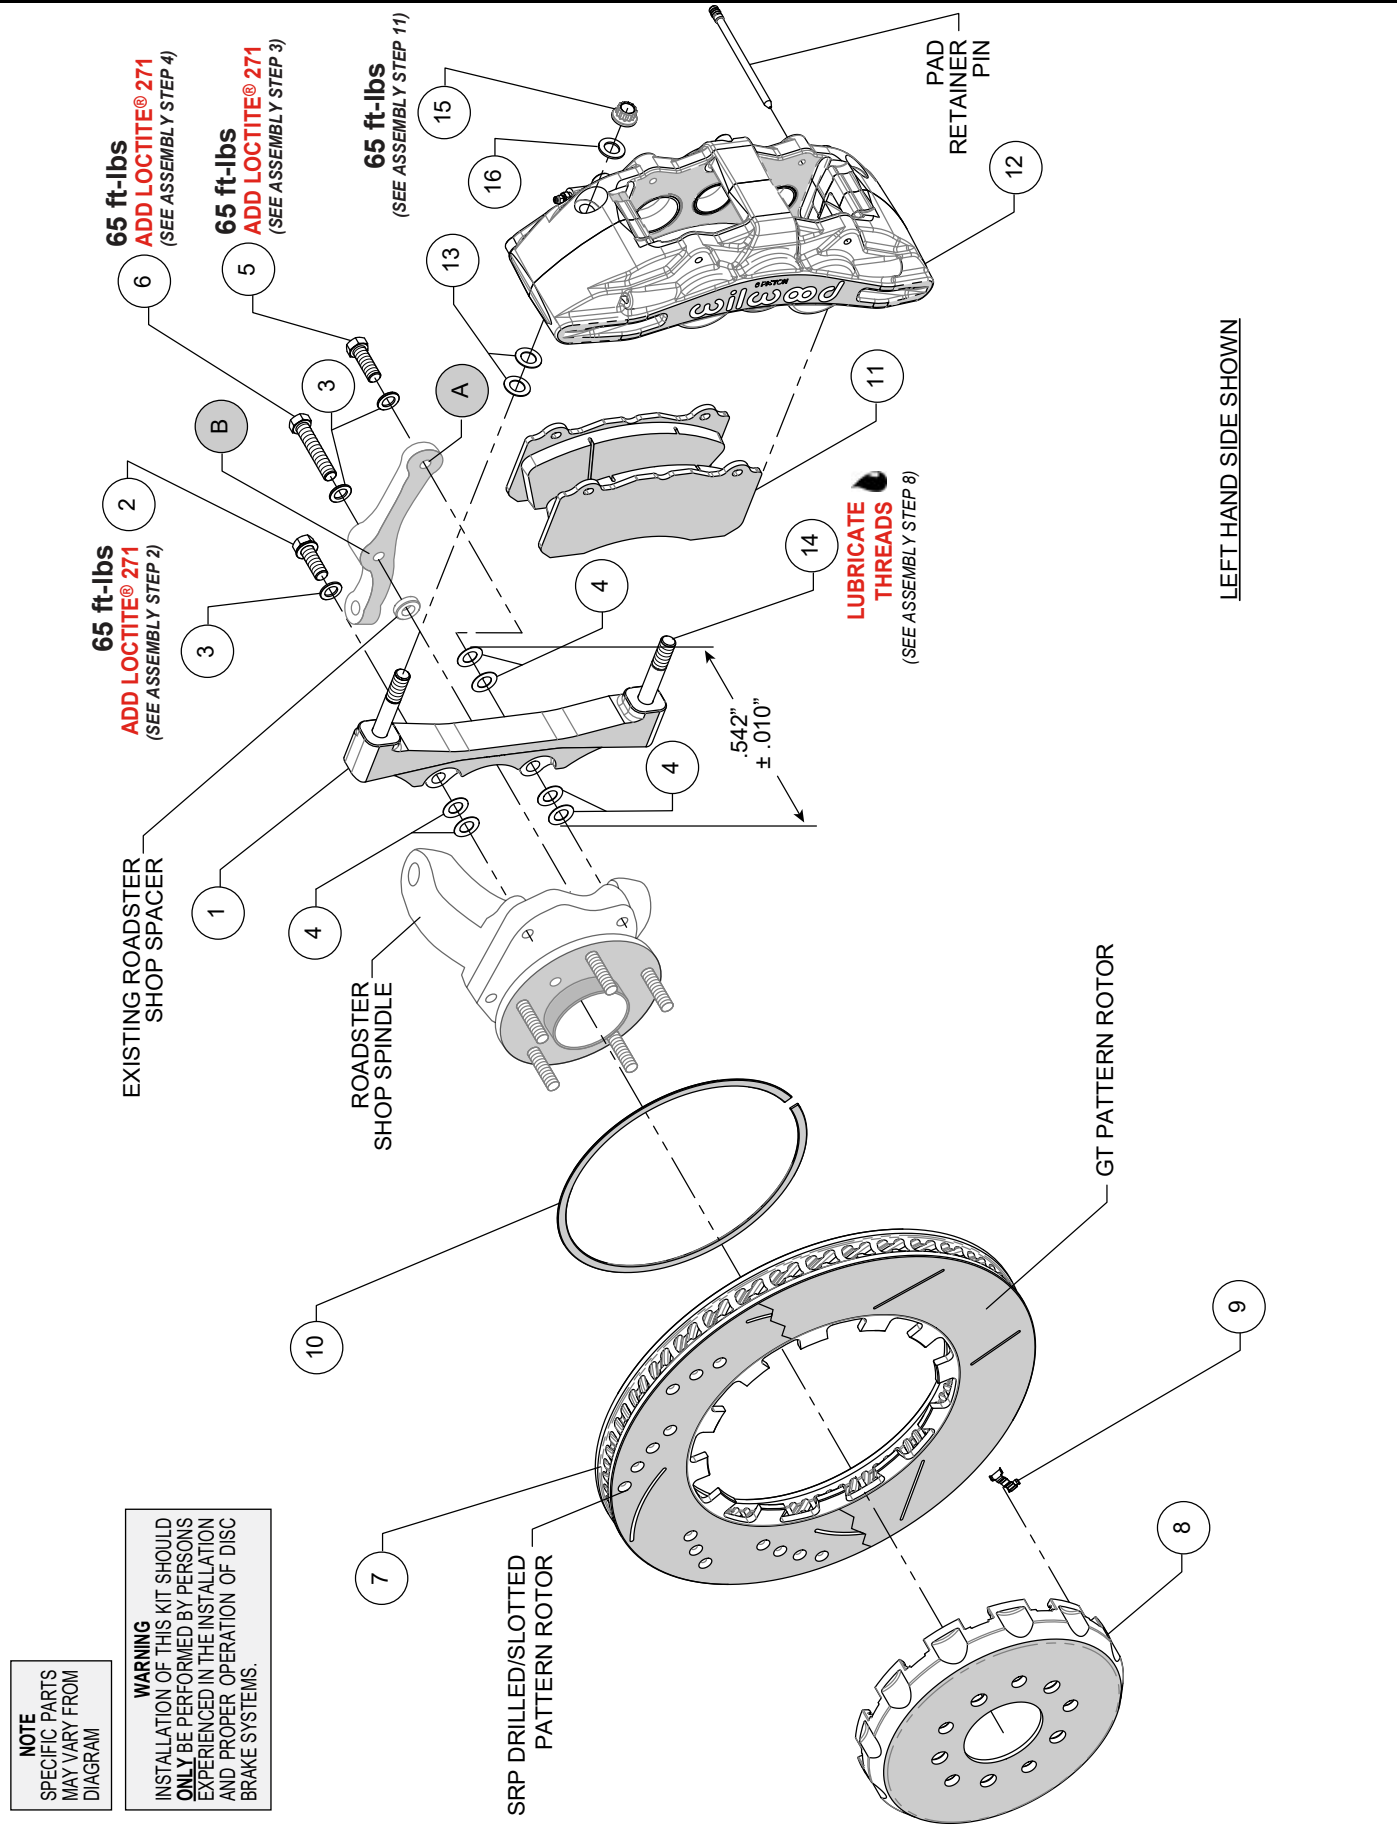

Figure 1. Typical Installation Configuration
**NOTE:** Numbers in parenthesis refer to the parts list and Figure 1 on the preceding pages.
**STEP 1** The caliper bracket (1) should initially be installed with clean, dry threads on the mounting bolts. Orient the bracket as shown in Figure 1 and Photo 1.
**STEP 2** Install the bracket (1) at top upright hole using 1.25" long bolt (2) washer (3), and two .016" thick shims (4) between the bracket and upright, Figure 1.
**STEP 3** Orient the steering arm, and identify the hole marked 'A', as shown in Figure 1. Install at bottom upright hole using 2.00" long bolt (5) and .063" thick washer (3), two .016" thick shims (4) between the bracket and steering arm, and another two .016" thick shims (4) between the bracket and upright, Figure 1. The bracket is located between the steering arm and upright. **NOTE:** The bracket and shim washers must add up to a total thickness of .542"  $\pm$  .010".
**STEP 4** Finish attaching the steering arm through the hole marked 'B', as shown in Figure 1. Install using 2.25" long bolt (6), washer (3), and .250" thick existing Roadster Shop spacer, Figure 1.
**STEP 6** Insert the dynamic mount wear clips (9) into the slots in the hat (8), Photo 2. Orient the rotor (7) as shown in Figure 1 and Photo 3, with the flush side of mount lugs facing the hat. Secure the rotor to the hat using the snap ring (10) by simultaneously pushing down on the rotor and installing the ring into the groove in the hat, as shown in Photo 4. **Carefully inspect snap ring to ensure complete engagement in the groove.**
**STEP 7** Slide the rotor/hat assembly (7/8) onto the hub, Figure 1. **NOTE:** The hat must fit flush against the hub face or excessive rotor run out may result. Install three lug nuts (finger tight) to keep the rotor/hat assembly in place while continuing with the installation, Photo 5.
**STEP 8** **NOTE:** This kit contains distinct right and left hand calipers that must be mounted in a specific direction, as described below. Lubricate the caliper mounting studs (14) with lightweight oil. Initially place two .035" thick shims (13) on each stud (14) between the caliper and the bracket, as shown in Figure 1 and Photo 6. Mount the caliper (12) onto the bracket (1) using lock nuts (15) and washers (16), Figure 1. Temporarily tighten the lock nuts. Ensure that the caliper is mounted so the largest pistons are at the rotor exit end of the caliper, in relation to the forward rotation of the rotor. View the rotor through the top opening of the caliper. The rotor should be centered in the caliper, Photo 7. If not, proceed as follows:
- Adjust by adding or subtracting shims (4) between the **bracket and the upright**. Always use the same amount of shims on each of the two bolts **between bracket and upright**.
- For the lower bracket mount bolt, if a shim (4) was added between the **bracket and upright**, then a shim must be removed between the **steering arm and bracket**, such that the total thickness of bracket and shims remain equal to  $.542 \pm .010$ ", Figure 1.
**STEP 9** Once the caliper alignment is correct, remove the bracket mounting bolts one at a time, apply red *Loctite*® 271 to the threads, and torque to value shown in Figure 1.
**STEP 10** Remove the caliper, then remove the two pad retaining pins from the caliper (12), Figure 1. Insert the brake pads (11) into the caliper from the bottom, with the friction material facing the rotor, as shown in Photo 8. Secure the brake pads in place with the pad retaining pins, Figure 1. **CAUTION: Ensure pad retaining pins are completely engaged into caliper.** It is recommended to use a small flat punch and hammer to tap the pins in until they are fully seated.
**STEP 11** Reinstall the caliper onto the caliper mounting bracket and temporarily tighten the lock nuts (15). Check that the top of the brake pad is flush with the outside diameter of the rotor. If not, adjust by adding or subtracting shims (13) between the caliper and the bracket. After the caliper pad height is set, torque the caliper lock nuts (15) to value shown in Figure 1